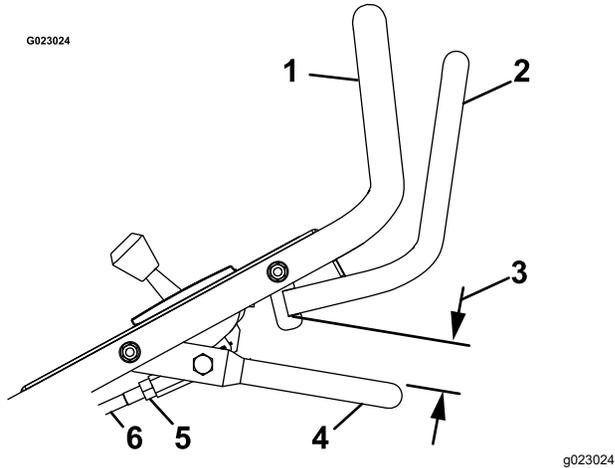

Figure 20
4. Check the distance between the tine ground engagement lever and the self-propel drive bail as shown in Figure 20 .